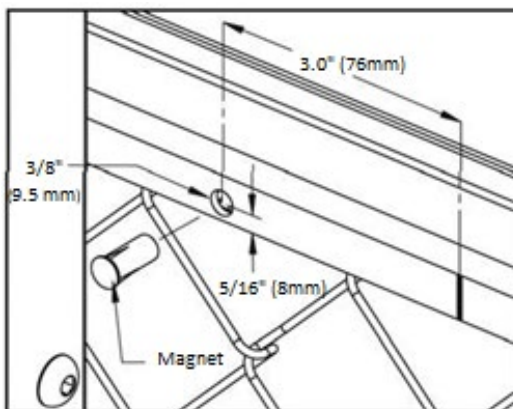

Figure 14. Installing Magnet
4. Drill a 3/8" (9.5mm) diameter hole in gate beam and tooth rack 7/8" (22mm) deep as shown in Figure 14.
9. If “LEARN OPEN” appears, then the target magnet was not detected. Check chain alignment and make sure the target magnet passes across the face of the sensor. See “*Figure 14. Installing Magnet*” on page 66.